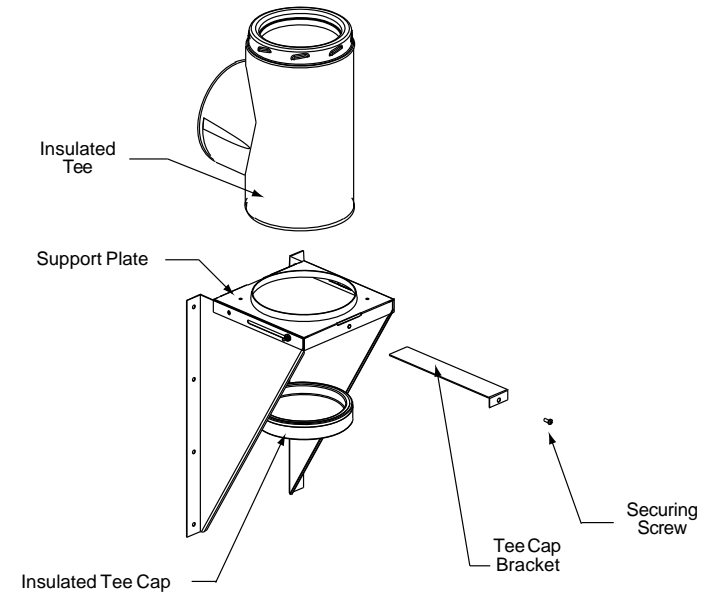

FIGURE 13 - Explosion View - Wall Support, Insulated Tee and Tee Cap, Tee Cap Bracket and securing Screw.
12. Place the Insulated Tee on the support Plate ensuring that the male coupler of the Tee is facing up and the flange on the top of the Support Plate slides into the female coupler (see Figures 13 & 14).
15. Insert the Insulated Tee Cap into the bottom of the Support Plate opening and secure by sliding the Tee Cap Bracket into both slots located at the front and rear of the Support Plate. Make sure the Tee Cap Bracket is beneath the Tee Cap and the other end is exiting through the slot at the back of the Support Plate. Secure in place by threading the securing screw into the nutsert located on the front of the Support Plate (Figures 13, 14 and 15).